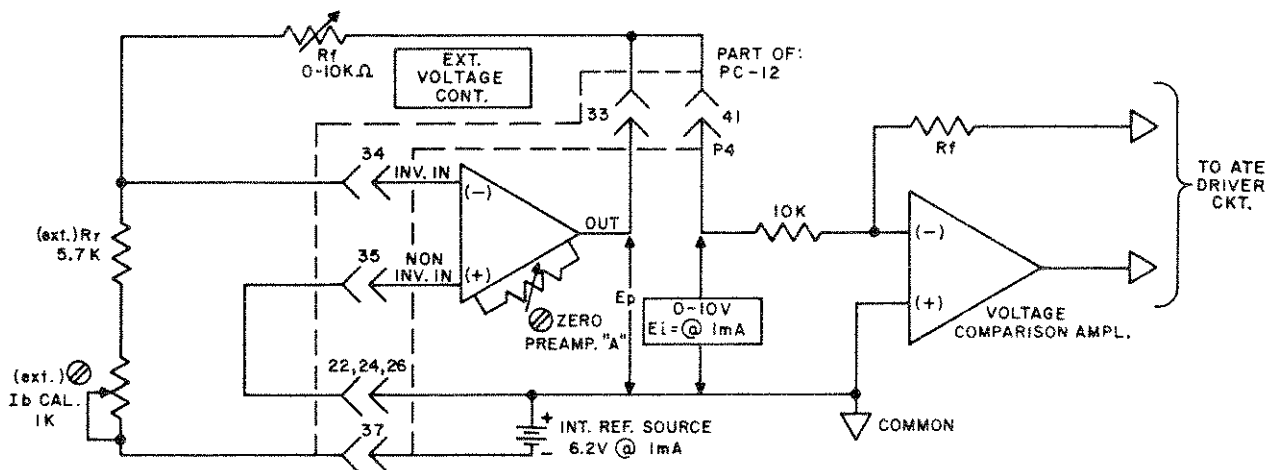

FIG. 3-7 TWO-TERMINAL RESISTANCE PROGRAMMING OF THE VOLTAGE CHANNEL, USING PREAMP "A" AND THE INTERNAL REFERENCE SOURCE.
- 3-46 As mentioned previously (refer to PAR.'s 3-39, 3-40) a wide variety of external programming sources can be used to control the ATE voltage channel. By means of one or both of the ATE's uncommitted preamplifiers, the external control potential can be amplified, inverted and/or summed with an internal d-c signal. Alternately, the preamplifier can be used to perform remote, two-terminal resistance programming of the ATE voltage channel. As seen in FIG. 3-7, the INT. REFERENCE SOURCE (6.2V @ 1 mA) is connected to PREAMP "A" and the external input/feedback components are calculated to produce the required 0 to 10 volts control signal from the preamplifier output.
- 3-47 (Refer to FIG. 3-7). The preamplifier functions here in the inverting configuration, producing its output voltage (E_p , which is made equal to the required control voltage " E_i ") according to the equation: